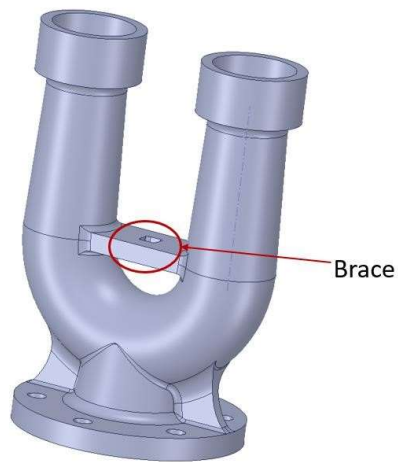

Figure 3
**Part B** –With reference to Figure 3, notice that the valve design shows a brace support between the pipes. What if we remove the brace? Remove it. Analyze the new stress state and determine the new peak equivalent stress value (within  $\pm 5$  MPa) and its location.